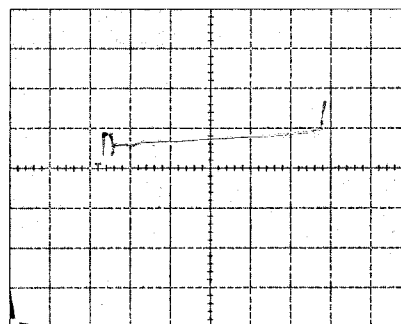

Figure 3-1. + and - input bias current on one display. Typical input offset current is very low and little to no trace separation is noticeable on the display.
- 2) Read display — Check that difference between vertical displacements is within specified limits [2.5 divisions, equal to $0.5 \mu\text{A}$] over full stated horizontal domain [+2 divisions from center] as specified. See Figure 3-1.